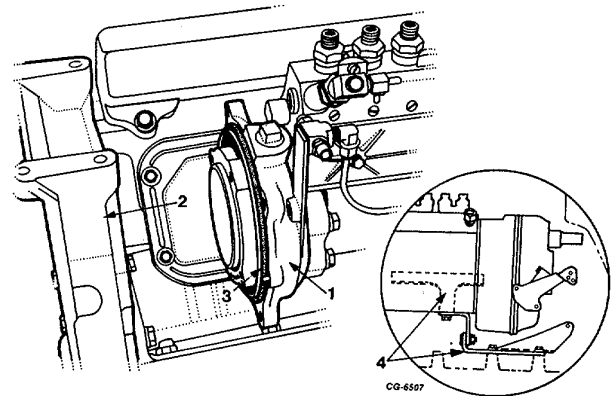

Fig. 42 Removing Injection Pump
43. Remove four injection pump adapter to engine front cover mounting bolts. Remove two support bracket bolts on right side of pump and two mounting bracket nuts underneath injection pump, remove pump (Figure 42).
44. Remove two bolts from lower pump mounting bracket and remove bracket (Figure 42).